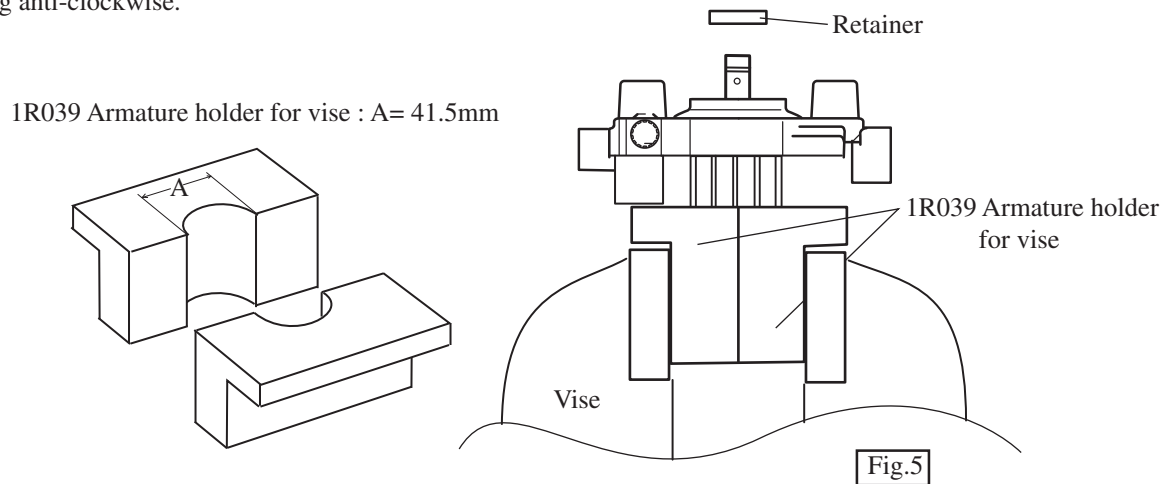

Fig.5
- (10) Set armature in No.1R039 armature holder, and hold the armature holder with vise as illustrated in Fig.5. Remove retainer with spanner 32 or monkey wrench from armature shaft by turning anti-clockwise.